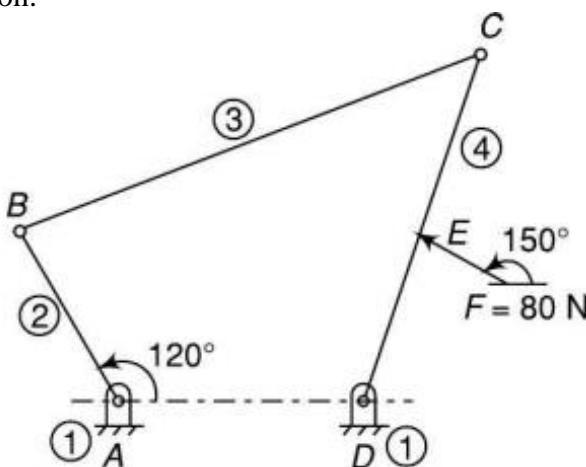

Fig.3
b) A four-link mechanism (Fig.3) with the following dimensions is acted upon by a force 80 N at angle 150 degrees on the link DC are: $AD = 500\text{mm}$, $AB=400\text{mm}$, $BC=1000\text{mm}$, $DC=750\text{mm}$,